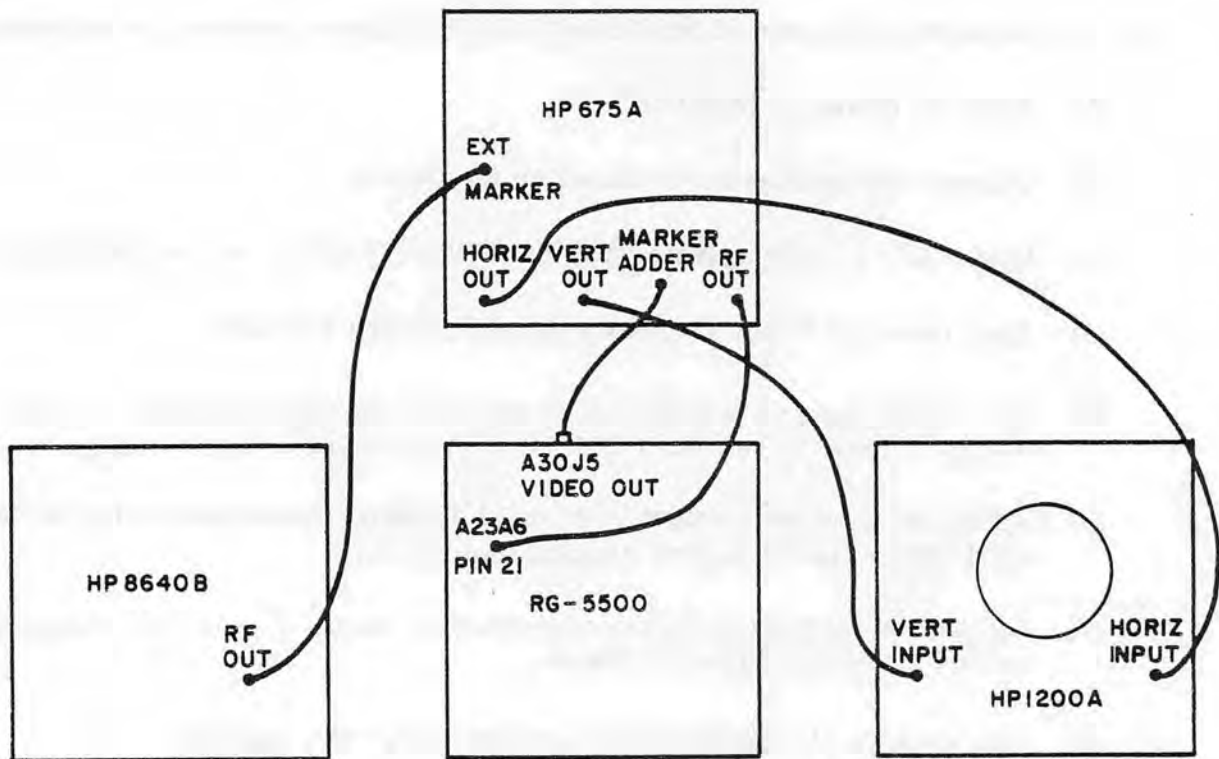

Figure 5-7. A23A6-A9 21.4 MHz FM Limiter/Discriminator Frequency Response Alignment Test Setup
- (2) Apply ac power to receiver.
- (3) Connect test equipment as shown on figure 5-7.
- (4) Set sweep generator frequency to 21.4 MHz and generator output to -20 dBm.
- (5) Adjust sweep width to display entire "S" curve on oscilloscope. Sweep rate must be kept low to prevent distortion of curve.
- (6) For L-C discriminators:
- (7) For crystal discriminators adjust L3 for maximum amplitude.